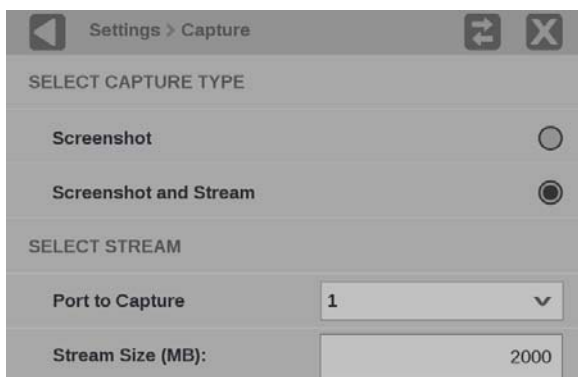

Figure 66: Selecting Screenshot and Stream
4. Select **Screenshot and Stream** under SELECT CAPTURE TYPE. (See Figure 66.)